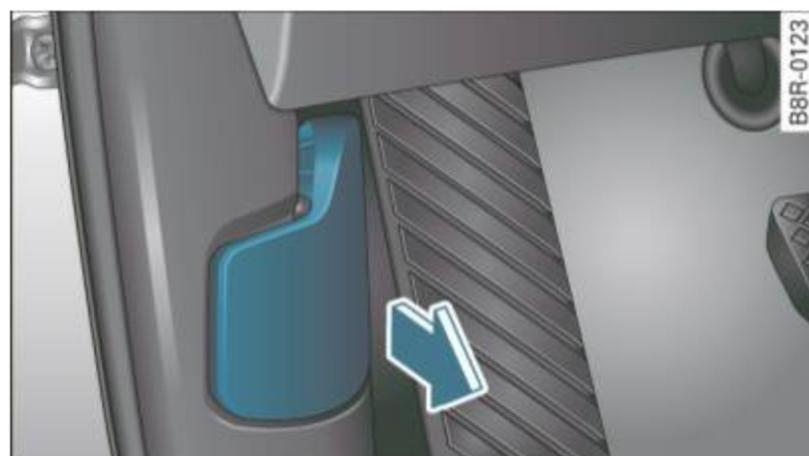

Fig. 198 Driver's side footwell: engine hood release lever
- Pull the release lever on the left under the instrument panel ⇒ fig. 198 in the direction of the arrow.